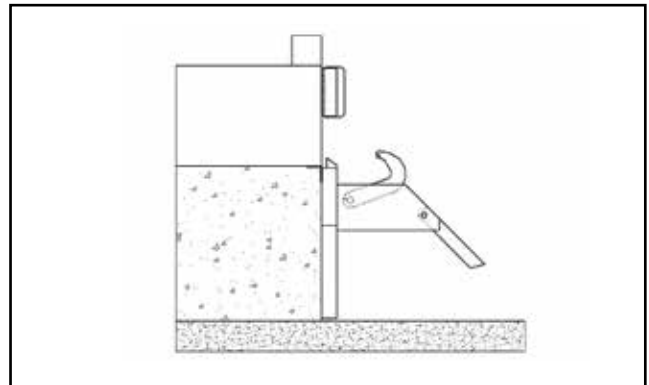

Figure 5-6-13 Restraint position
- i. See example of the hook position as shown in Figure 5-6-13.